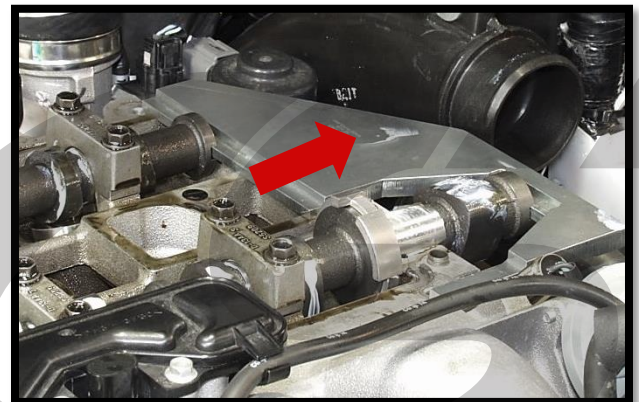

Figure 6e
f) **Remove the camshaft locking tool** (**Figure 6e**).
g) **Using a 21mm socket, rotate the crankshaft clockwise two (2) full rotations.**